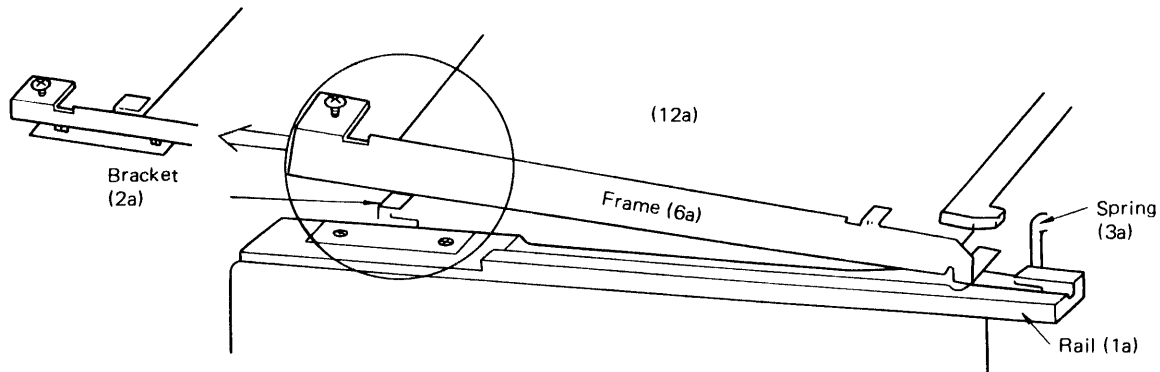

Figure 3-5-15 Dual Channel Frame Mount
- ⑥ Pressing PC board unit (PC board and frame assembly) (12a) downward, insert it until the springs deflect slightly. The PC board unit frame is automatically latched at lugs of the brackets (2a) and locked. (See Figure 3-5-15.)